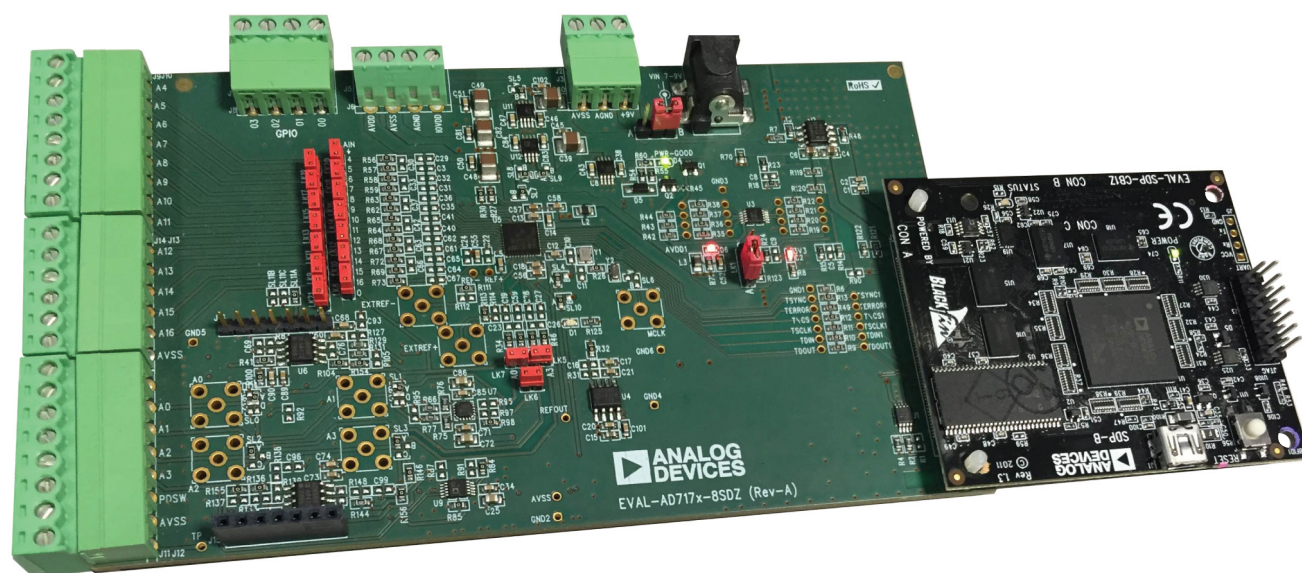

Figure 2. Hardware Configuration, Setting Up the EVAL-AD7175-8SDZ
2. Connect the SDP-B board to the EVAL-AD7175-8SDZ evaluation board, as shown in Figure 2.
4. Connect the external 9 V power supply to Connector J4 of the evaluation board, as shown in Figure 2. Set LK2 to Position B.